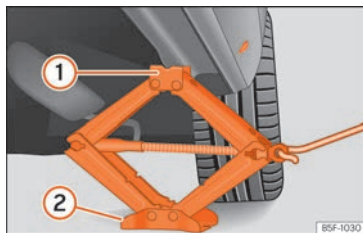

Fig. 192 Crossbar: mounting the jack on the vehicle.
- Turn the jack crank handle, located below the strut support point, to raise it until the tab ① >>> Fig. 192 is below the housing that is provided.
- Align the jack so that the tab ① "grips" onto the housing provided on the cross member and the mobile base ② is resting on the ground. The base plate ② should fall vertically with respect to the support point ①.